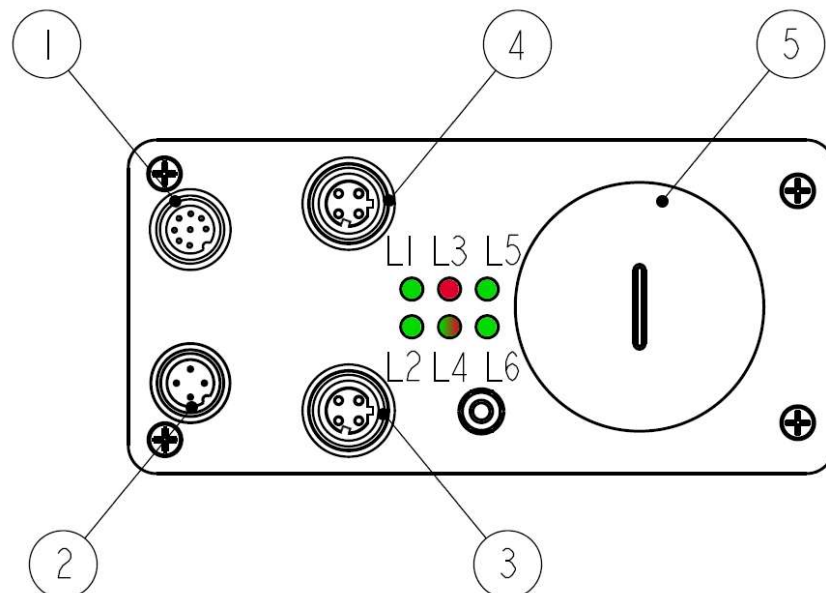

Figure 4: Connectors and diagnostic LEDs
4.2 Connectors (Figure 4 and Figure 5)